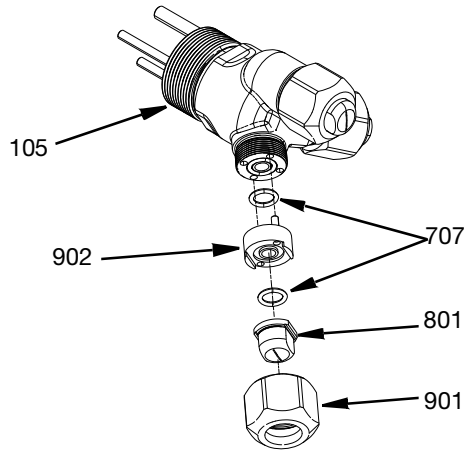

FIG. 5
1. Place the O-rings (707) into the 3 head adapter assembly (105).
2. Place an O-ring into each spray nozzle sealer adapter (902). The nozzles (801) are then inserted in the spray nozzle sealer adapter (902) making sure the nozzle is keyed into the spray nozzle sealer adapter.
3. Line up the dowel pins of the spray nozzle sealer adapter (902) with the 3 head adapter assembly (105), and secure together with the retaining nut (901) Torque to 15 ft-lb (20.34 N•m). See FIG. 5.